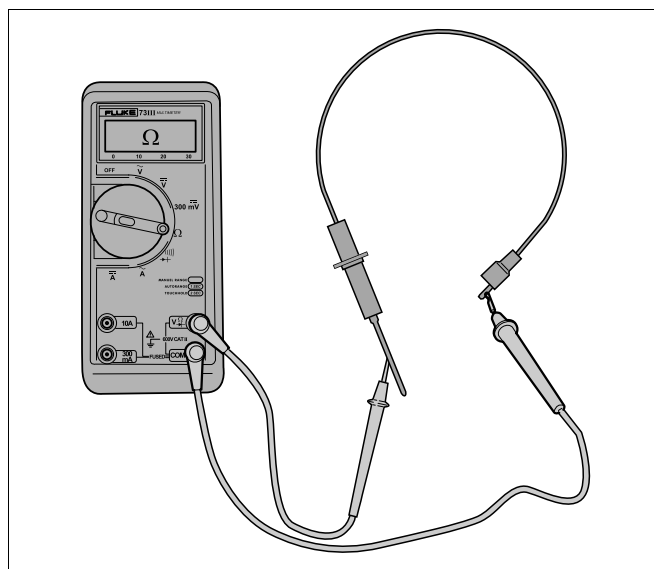

fig. 30 Testing the resistance of the ionization electrode
- Test the resistance of the ionization electrode (see fig. 30). The resistance must be 0 Ω.